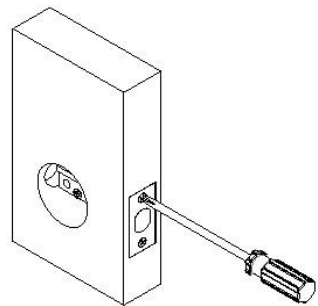
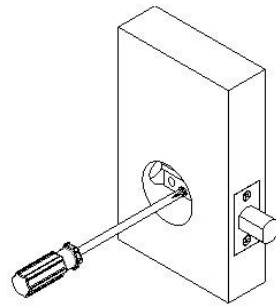
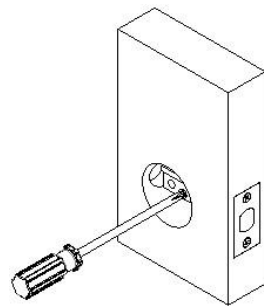

Figure 8
Figure 9
Figure 10
- (1). Hold the part ①, rotate the part ② by 45°, and push part ② ahead. (2). Rotate part ② by 45° in the other direction to make the card pillar of the Lock Body to be embedded into the matching card hole of 60 mm.
3. After the procedure is completed, fix the **Lock Body** using a screwdriver, as shown in **Figure 8**. Insert the screwdriver into the cross-shaped hole of the **Lock Body**. When you rotate the cylinder clockwise, it springs out automatically, as shown in **Figure 9**. When you rotate the cylinder counterclockwise, it springs back automatically, as shown in **Figure 10**.